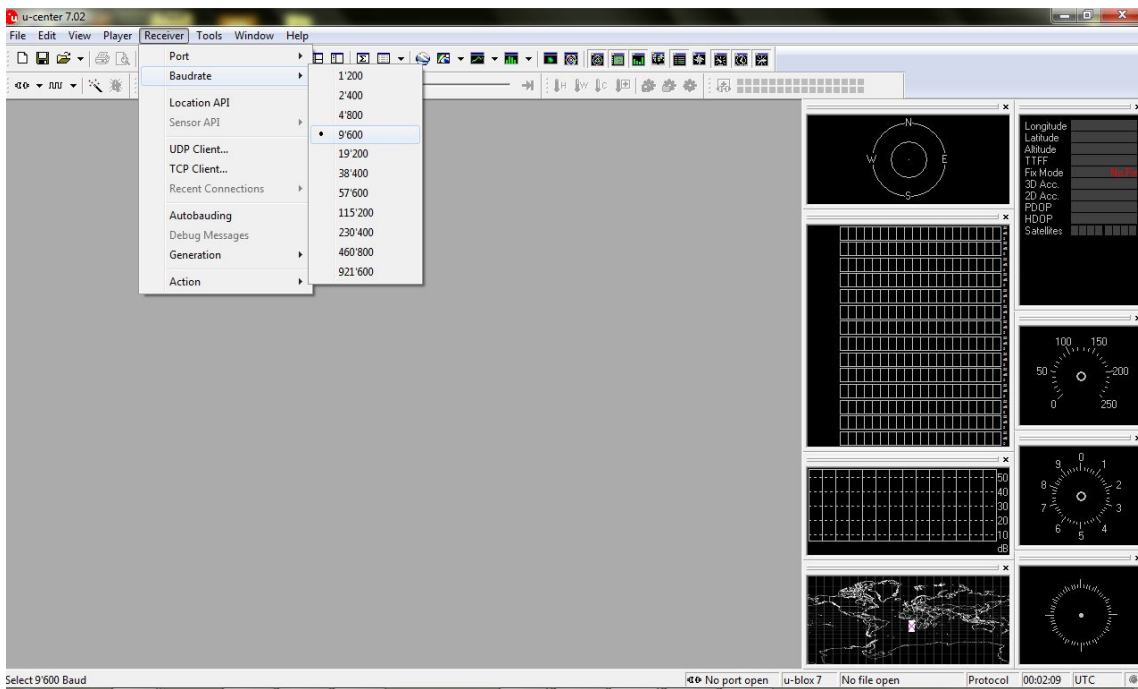

Fig. 2 Set Baud
1. Open tool and set the port number (figure 1) and baud rate (9600Kbps default figure 2).